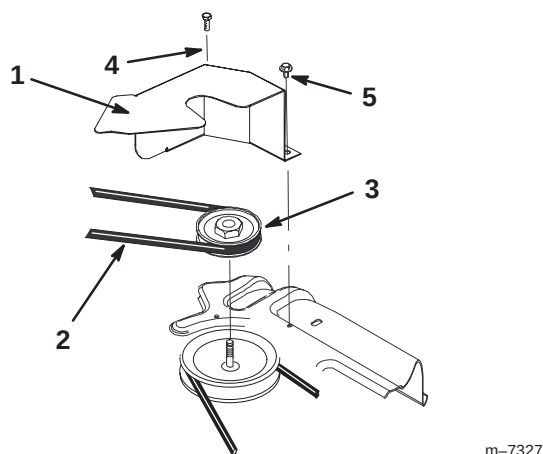

Figure 8
1. Place the blower belt around the blower pulley (Fig. 8).
2. Install the belt cover using one of the existing screws and a new screw (1/4 x 1/2 inch) as shown in Figure 8.